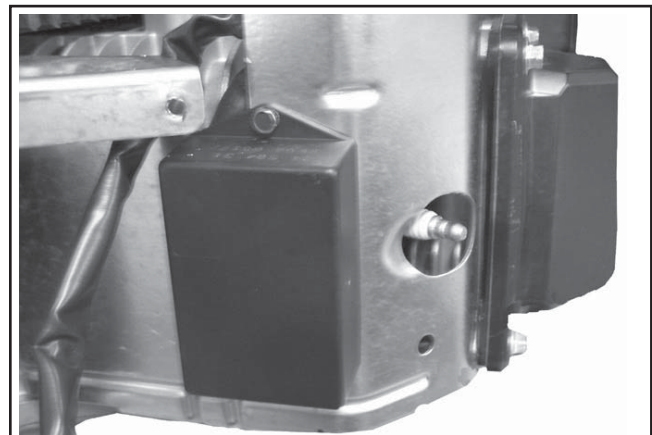

Figure 10-67. SAM Mounting.
3. Install the spark advance module (DSAM) if equipped, onto the outer cylinder baffle. See Figure 10-67.